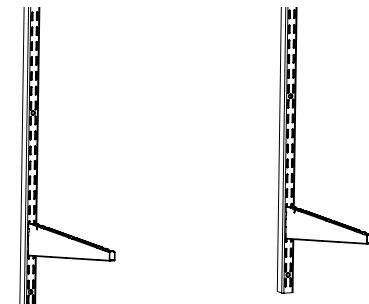

Figure 1
STEP 2: Insert the shelf brackets into the wall standards in the desired location (**Figure 1**).